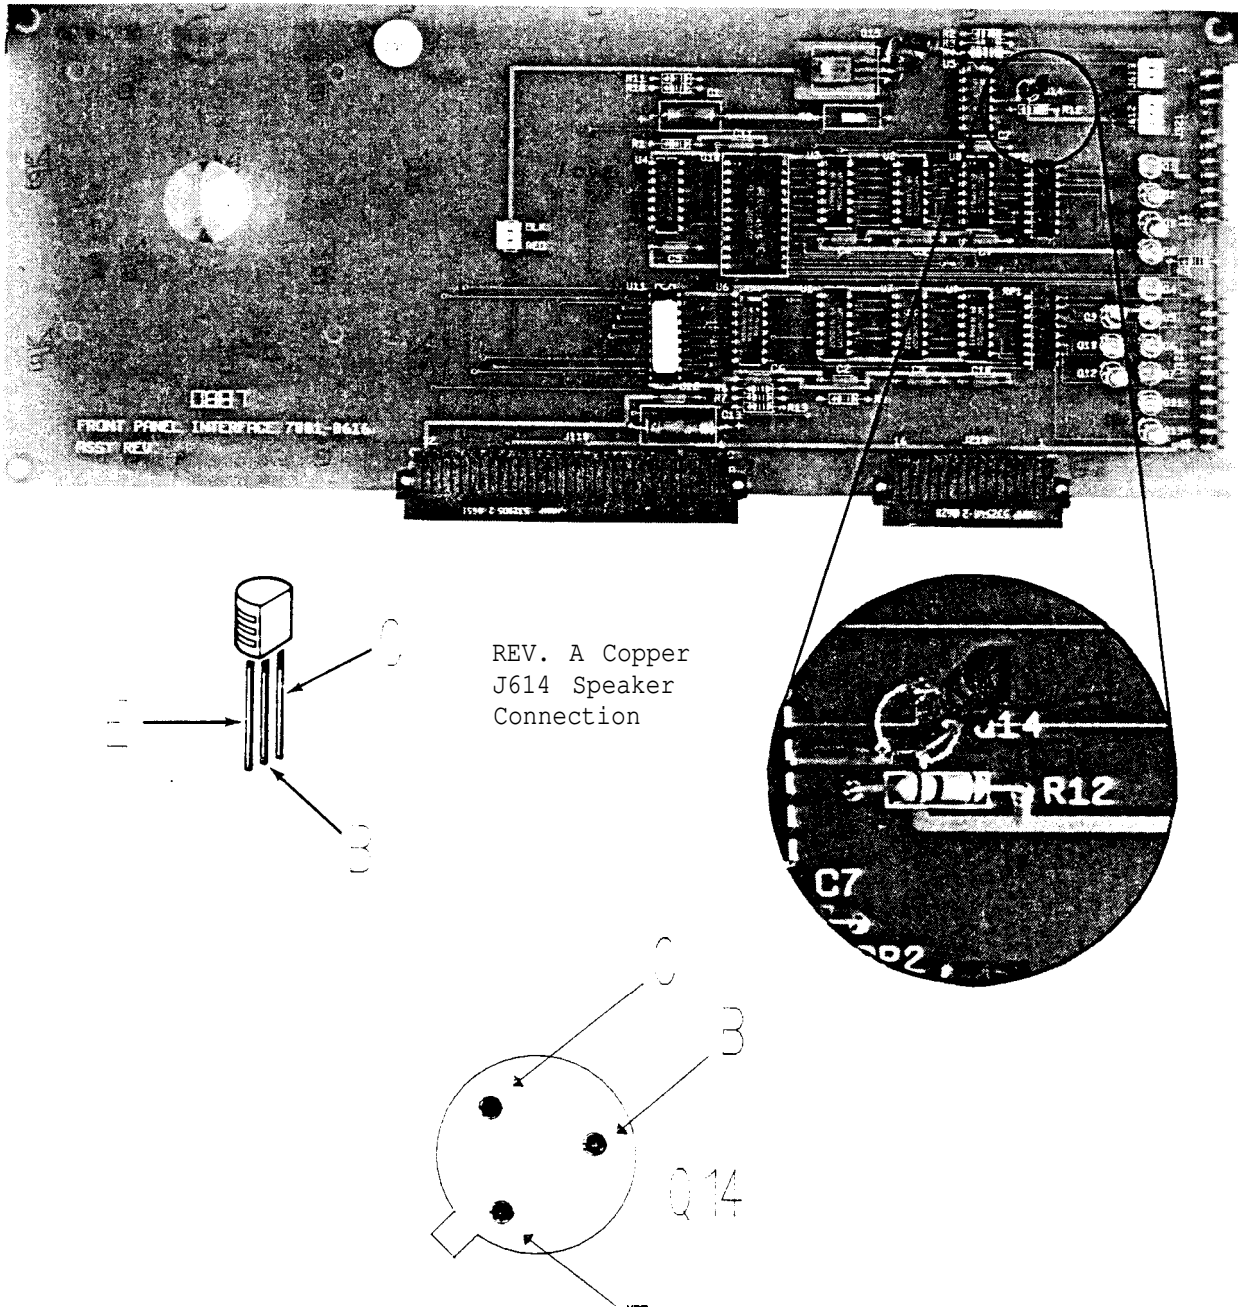

Figure 4. Placement of new Transistor, Q14
41. Install new Transistor, Q14 (Sun part number 0776-0254) such that the Collector of the new transistor is in the upper most hole location for Q14 , the Base is in the hole farthest to the right and the Emitter of the transistor is in the lower floor, as shown in Figure 4.